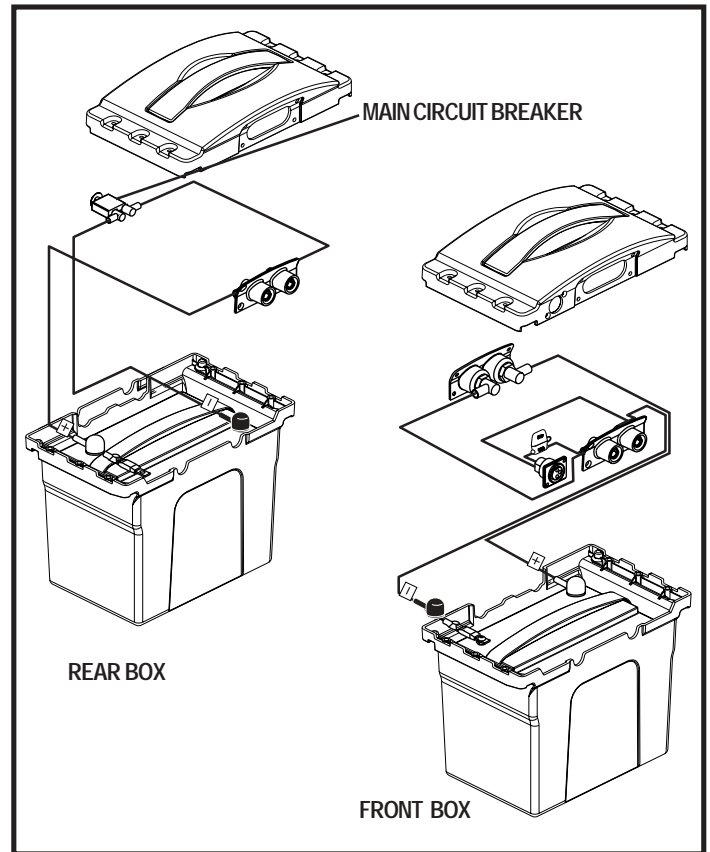

Figure 28. Battery Boxes
6. Place new batteries in the battery boxes. See figure 28.